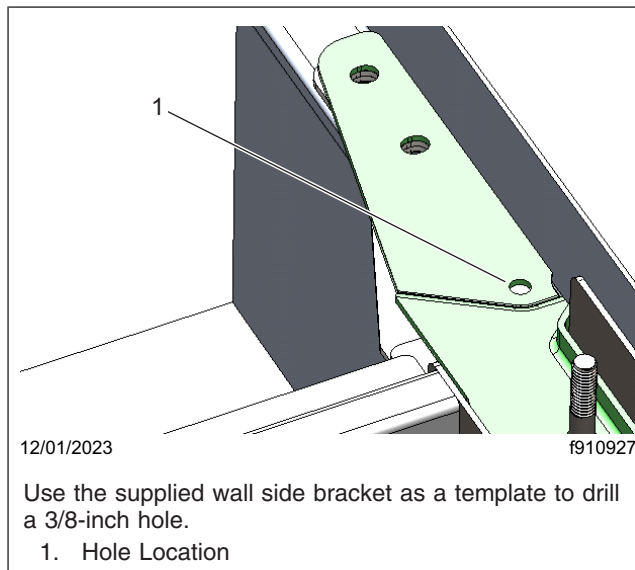

Fig. 5, Drilling the Hole in the Existing Wall Bracket
8. Use the supplied wall side bracket as a template to drill a 3/8-inch hole through the existing wall bracket and wall rail. See Fig. 5.